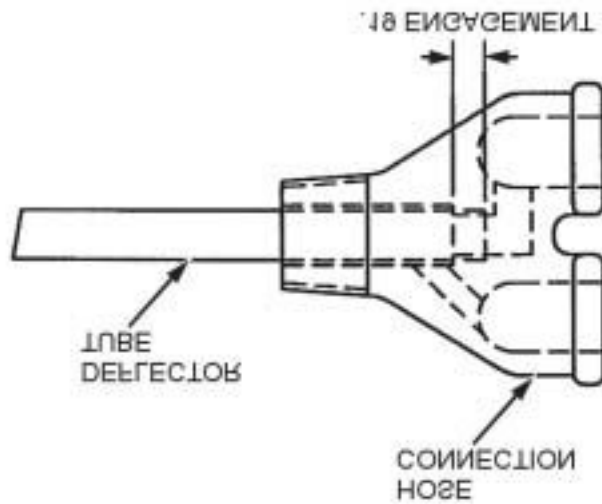

Figure 8.8: Hose Connection (Prior to 01AP97)
3. Install water connection. See Figures 8.8, 8.9 and 8.10.